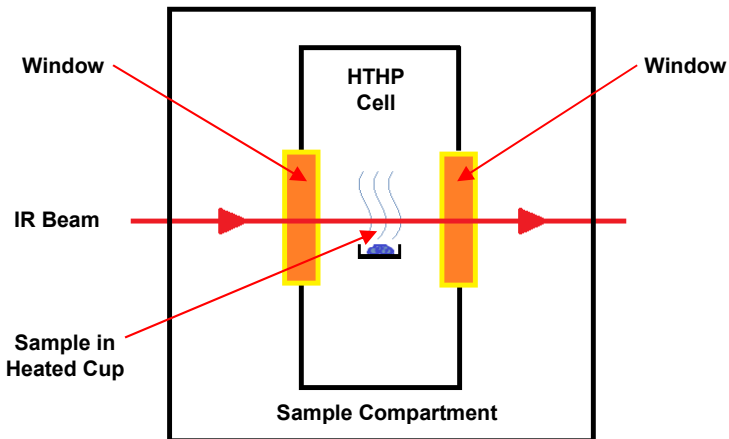

Fig 27. Schematic for HTHP Cell Decomposition Mode of Operation
When operating the HTHP Cell in **decomposition** mode, the decomposition sample cup recess area (53) of the heater block assembly (10) is presented just below the radiant IR beam path of the HTHP Cell that passes through the window housing assemblies (11). (See Fig 27. for the schematic of decomposition mode of operation).